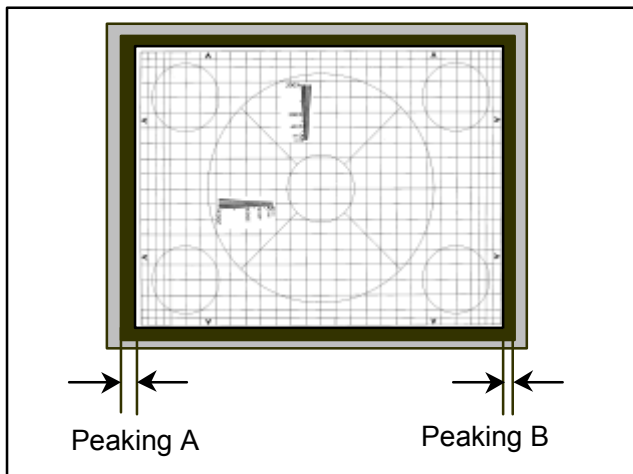

Fig.4 Peaking Balance adjustment
4. Adjust **RV2** so that the both peaking width "A" and "B" are equal. (Figure.4)